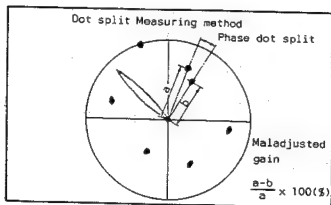

Fig. II-54
1. Measure dot split according to Fig. II-54.